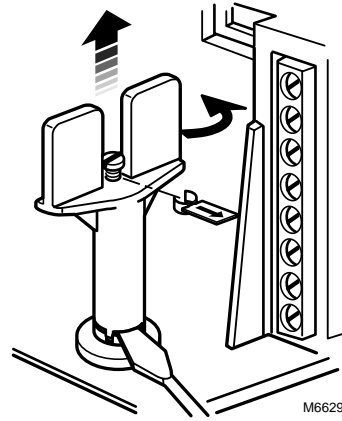

Fig. 5. Removing spring retaining clip and releasing manual spring handle.
Use a screwdriver to lift and release manual spring handle. (See Fig. 5.)
7. Remove the manual spring handle retaining clip, and lift and release the handle. See Fig. 5. The easiest way to perform this operation safely is to:
- b. Wedge a small, flat-bladed screwdriver under the manual spring handle and pry up the handle. (See Fig. 5.)